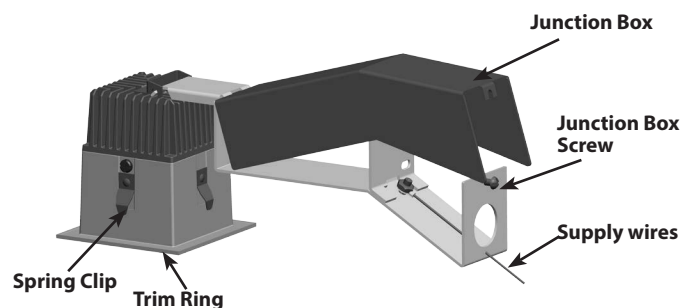

Fig: 2
6. Loosen the **Junction Box Screw** and open the **Junction Box** (Fig.2). Attach **Supply Wires** into **Junction Box** and connect to the fixture. See wiring section for details.
2. Loosen the **Junction Box Screw** and open the **Junction Box** (Fig.2). Attach **Supply Wires** into **Junction Box** and connect to the fixture. See wiring section for details.